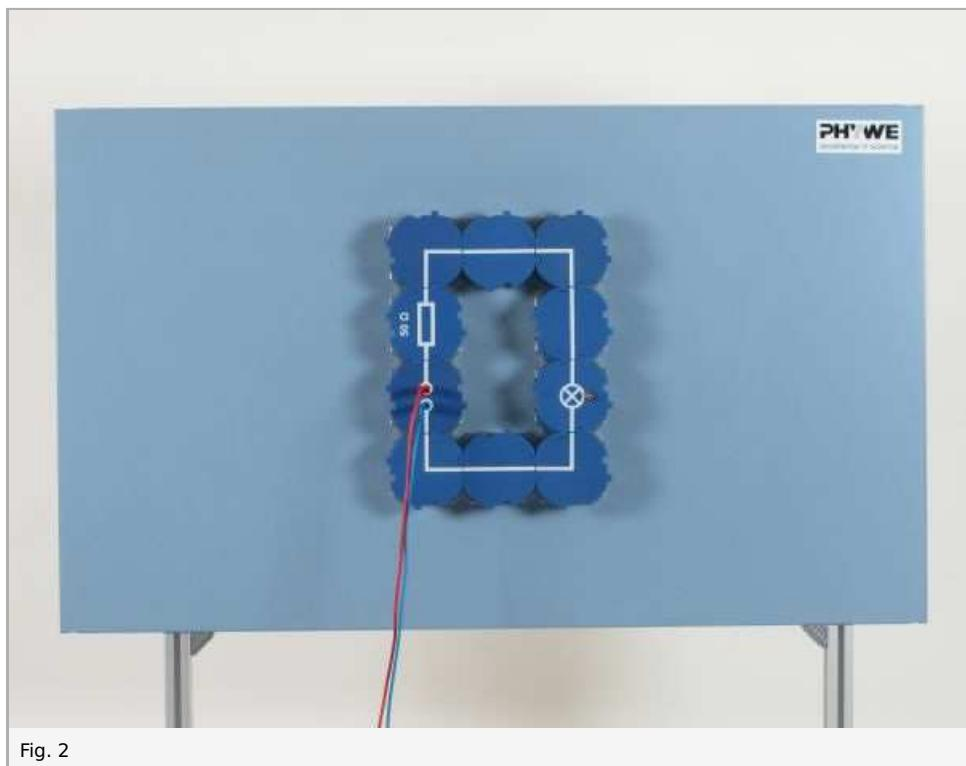

Fig. 2
- Set up the experiment as shown in Fig. 2
- Replace the direct current source with the alternating current source; set a voltage of 6 V-; observe the filament lamp (2)